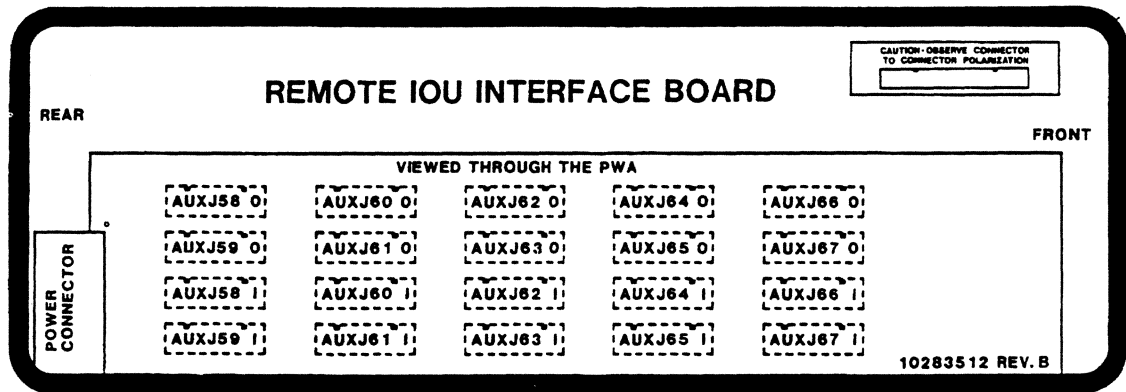

Figure 2-52. Remote IOU Interface Module Cabling
- ___ 17. Hold Remote IOU Interface Module upright (vertically) and plug in SIB cables. Use decal on front of CP as a guide (figure 2-52).